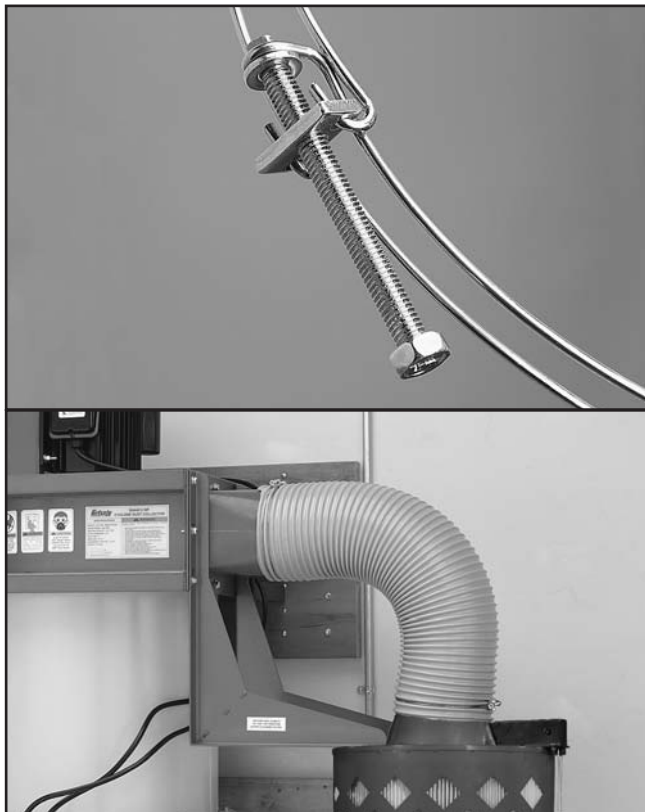

Figure 22. Gray hose properly installed (Model G0440).
- b. Connect the gray flexible hose from the outlet port to the canister adapter and secure it in place with the two 7" hose clamps, as shown in **Figure 22**.